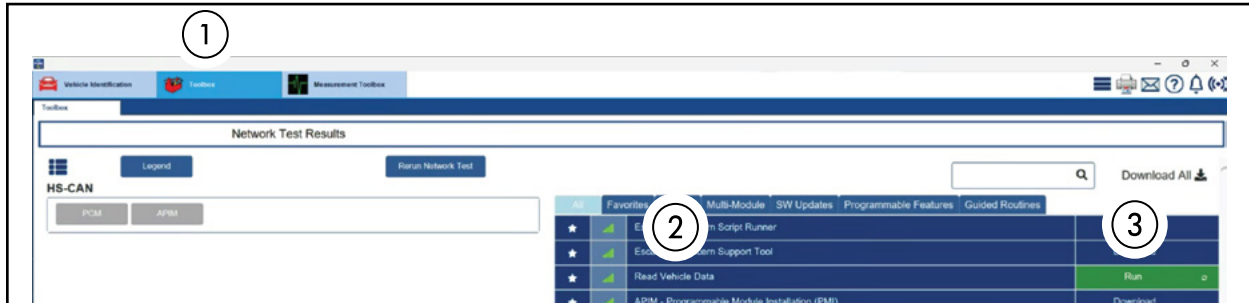

FIGURE 1
6. Select **Toolbox** tab (1). See Figure 1.
7. Select **All**. See Figure 1.
8. Select **Read Vehicle Data** (2) and then **Run** (3). See Figure 1.